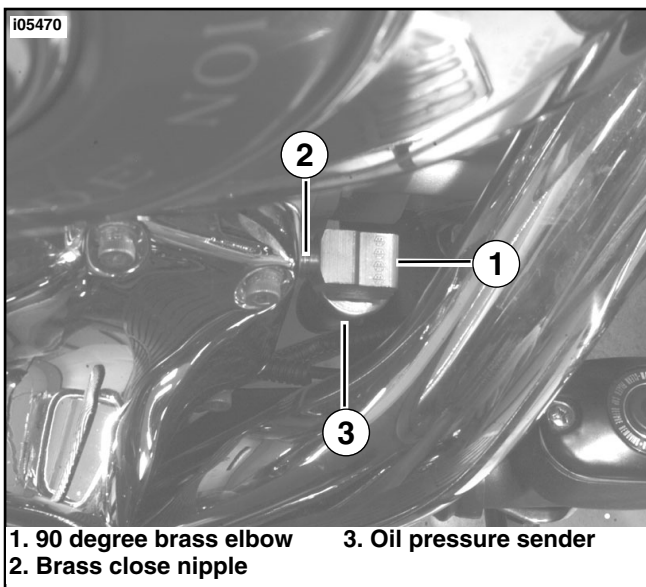

Figure 6. Relocate Oil Pressure Sender
3. See Service Parts Illustration (39) and Figure 6. Obtain the 90 degree brass elbow and brass close nipple from kit. Coat threads on nipple with PIPE SEALANT WITH TEFLON and install to 90 degree brass elbow. Install elbow into oil pressure sender threads and tighten completely. Aim elbow so open threaded end faces downward.